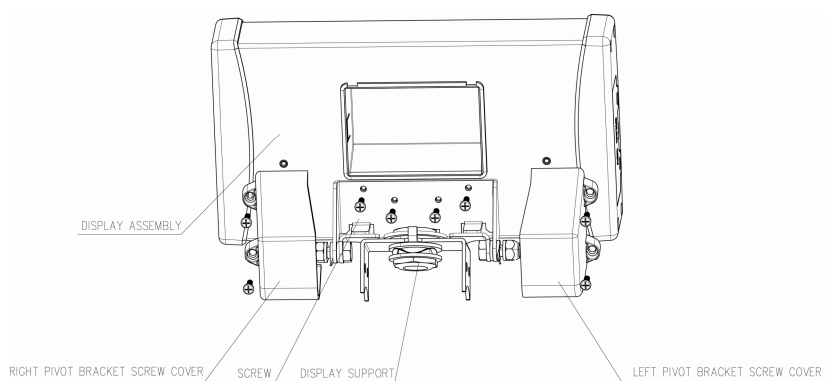

Figure 7
7. Align the four mounting holes on the back of the display assembly with the four mounting holes in the display support, and fasten the display assembly onto the metal display support using the (4) Phillips pan head M4 screws (see Figure 7).
8. Place the pivot bracket screw covers over the pivot screws, and fasten the covers to the back of the display assembly using the (4) Phillips pan head M4 screws.